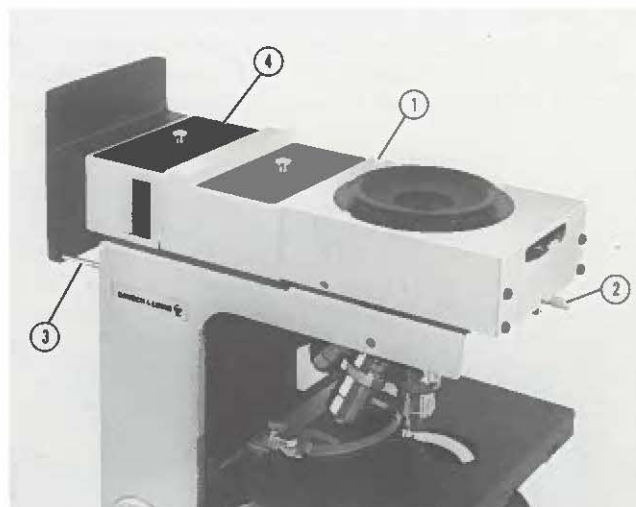
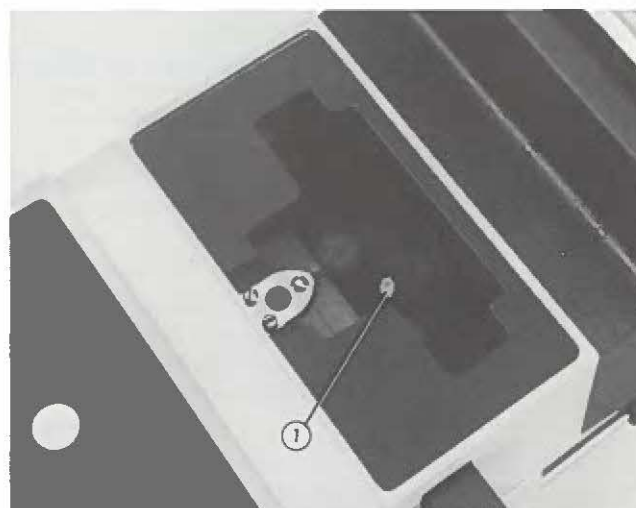

FIGURE 5-2 INCIDENT-FLUORESCENCE ILLUMINATOR INSTALLED ON STAND
FIGURE 5-3 JACKSCREW ON INCIDENT-FLUORESCENCE ILLUMINATOR
5.1.2 Loosen the knurled clamp screw (Figure 5-2) at the front of the illuminator and engage the illuminator with the mounting ring on the top of the microscope arm. Orient it so the dovetail which will support the lamphouse is at the rear of the arm, and tighten the clamp screw.
5.1.4 Remove the cover above the exciter filter slider (Figure 5-2).
5.1.5 There is a jack screw (Figure 5-3) to the rear of the slider and centered between the sides. Adjust this screw so it just touches the top of the microscope arm. This provides increased stability. The fluorescence microscope is unstable unless oriented as shown in Figure 5-2 and described above.
5.1.6 Screw in the two long screws on either side of the dovetail adapter (Figure 5-2) until, with fingertip pressure, they just contact the back of the arm. These screws prevent the lamphouse and illuminator assembly from falling if the front clamp screw is inadvertently loosened.